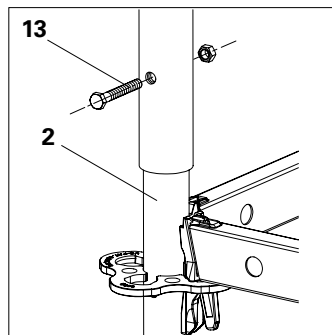

Fig. A2.07a
3. Tightly connect Standard UVR (4) and Base Standard UVB 24 (2) using Bolts M10x80.8.8 and Nuts (13). (Fig. A2.07a/A2.07b)